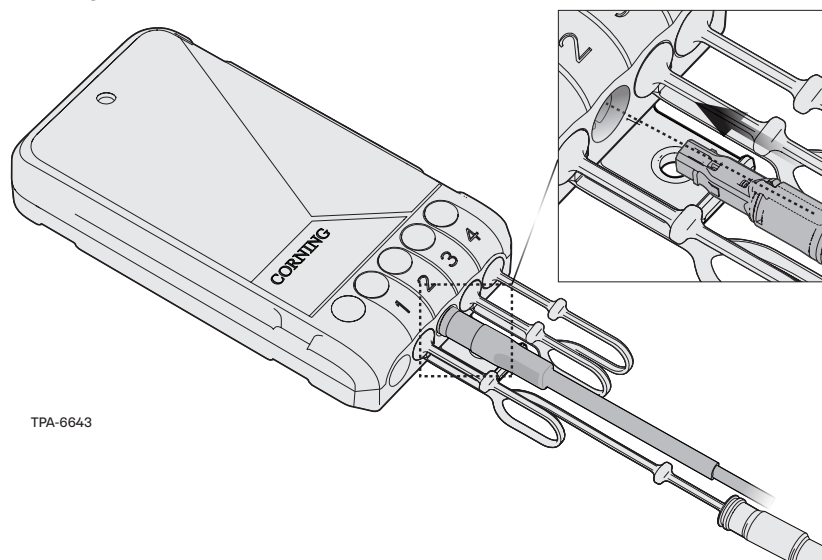

Figure 31
**Step 8:** Insert the connectorized drop cable into the drop connector port. Orient the notch on the connector with the port button in the terminal (Figure 31).